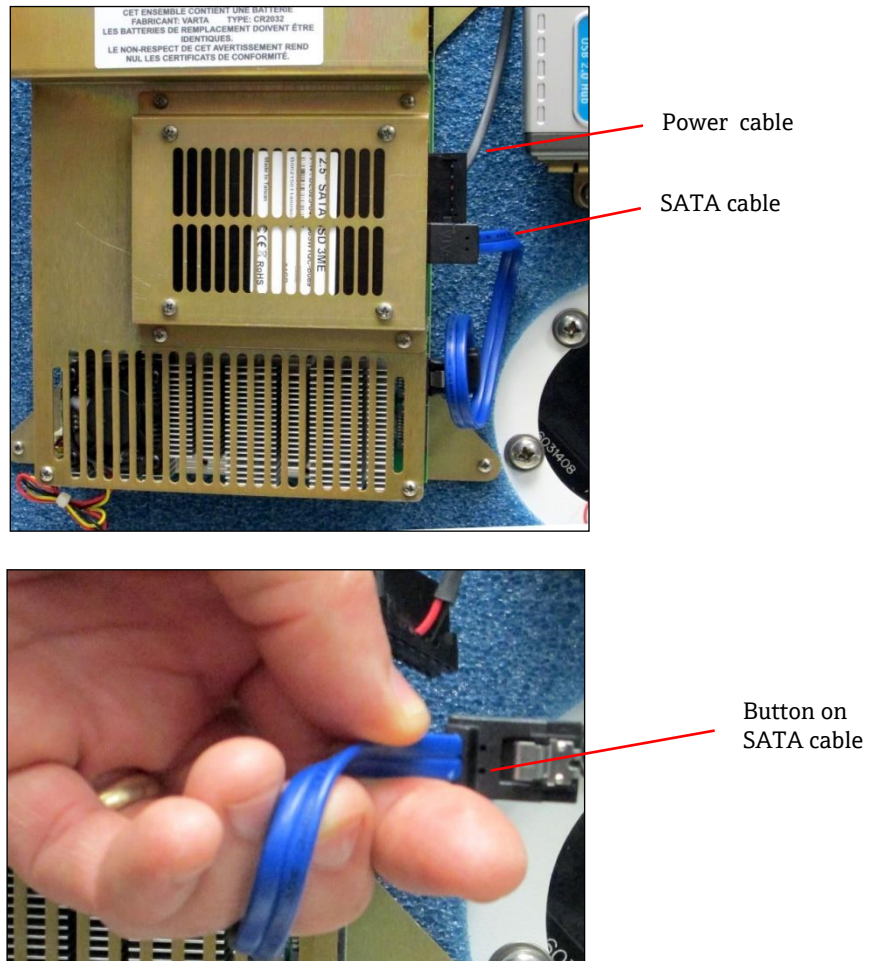

Figure 141. Remove SATA cable
2. Remove the SATA cable by pressing the button on the back and pulling out (Figure 141).
- Remove the power cable, which is the top cable in Figure 141.